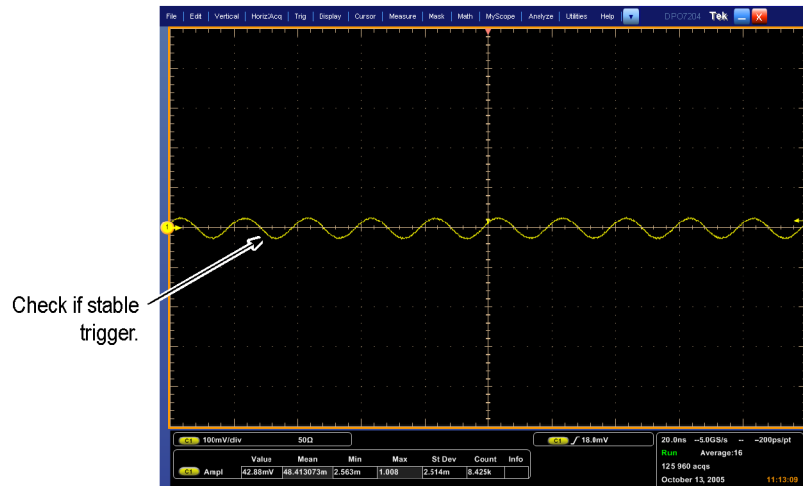

Figure 34: Measurement of trigger sensitivity - 50 MHz results shown
- CHECK that a stable trigger is obtained for the test waveform for both the positive and negative slopes of the waveform. Use the **Trigger Level** knob to stabilize the A trigger. Touch **Level** and use the keypad or the multipurpose knob/Fine button to stabilize the B trigger. Touch one of the Slope buttons to switch between trigger slopes. (See *Figure 34: Measurement of trigger sensitivity - 50 MHz results shown* on page 260.)
- CHECK that a stable trigger is obtained for the test waveform for both the positive and negative slopes of the waveform. Use the **Trigger Level** knob to stabilize the A trigger. Touch **Level** and use the keypad or the multipurpose knob/Fine button to stabilize the B trigger. Touch one of the Slope buttons to switch between trigger slopes. (See Figure 34: Measurement of trigger sensitivity - 50 MHz results shown on page 260.)